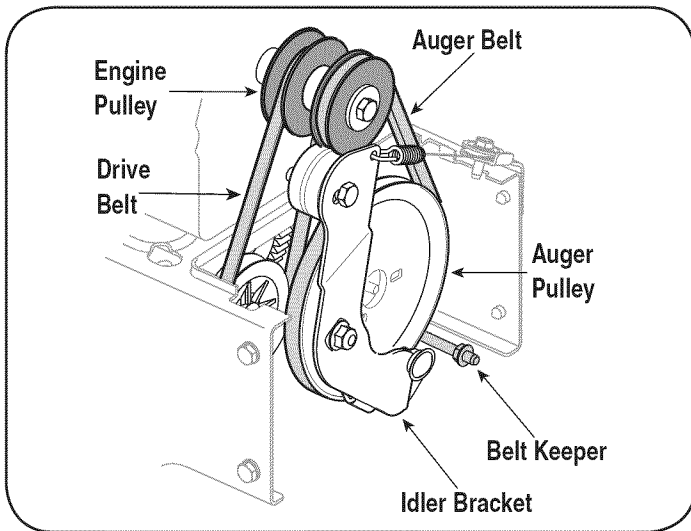

Figure 18
2. Slip the front auger belt off of the engine pulley pushing it forward and rolling in off of the pulley. See Figure 18.
5. Place the new drive belt into the groove on the engine pulley. See Figure 18.